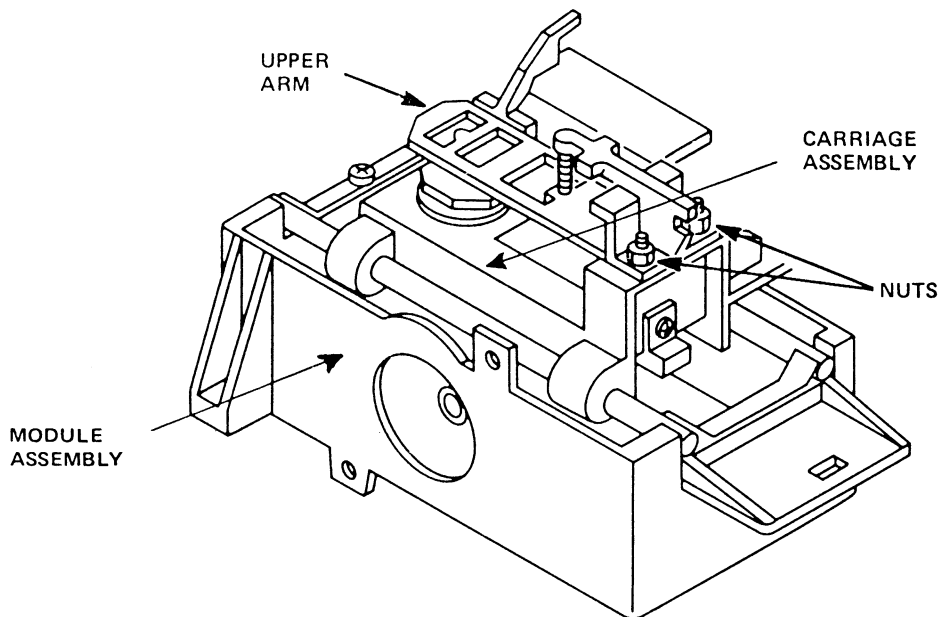

Figure 2-10
2.4.2.1 Turn the two (2) nuts that attach the upper arm to the carriage assembly (see Figure 2-10) counter-clockwise one-quarter ( $1/4$ ) turn with a  $3/16$ " nut driver.